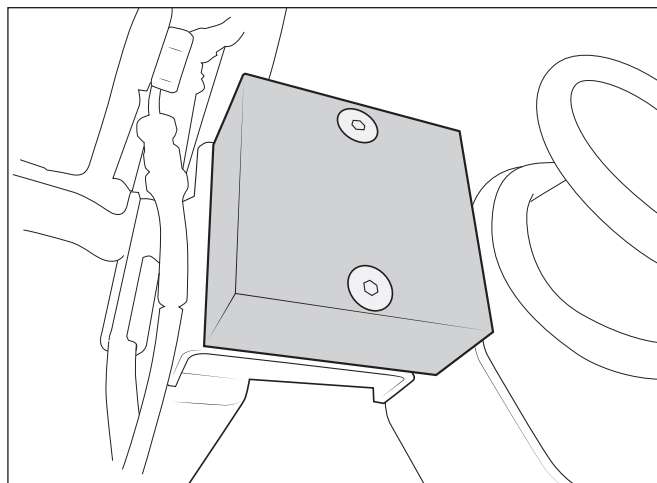

Figure 6
9. Install AEV bump stop spacers on the axle using the supplied M10 flat head, countersunk bolts and flange nuts (fig. 6).